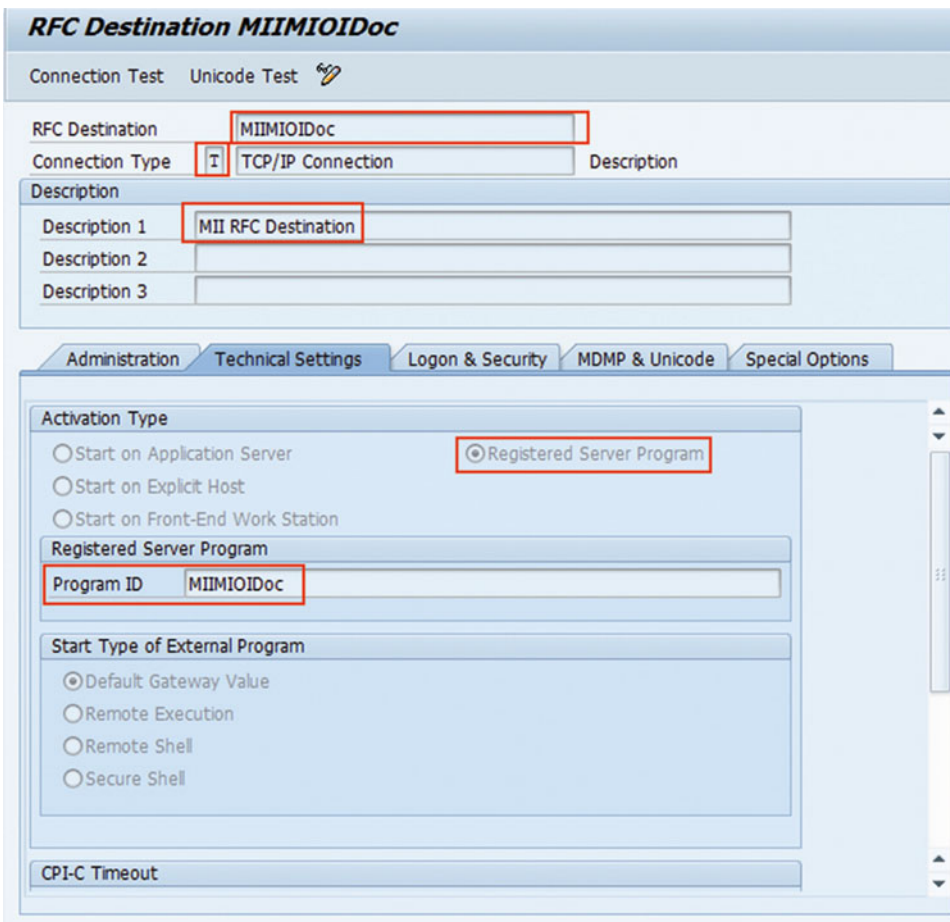

Figure 3-61. Create RFC destination
3. On the RFC Destination screen, enter the following data (refer to Figure 3-61).